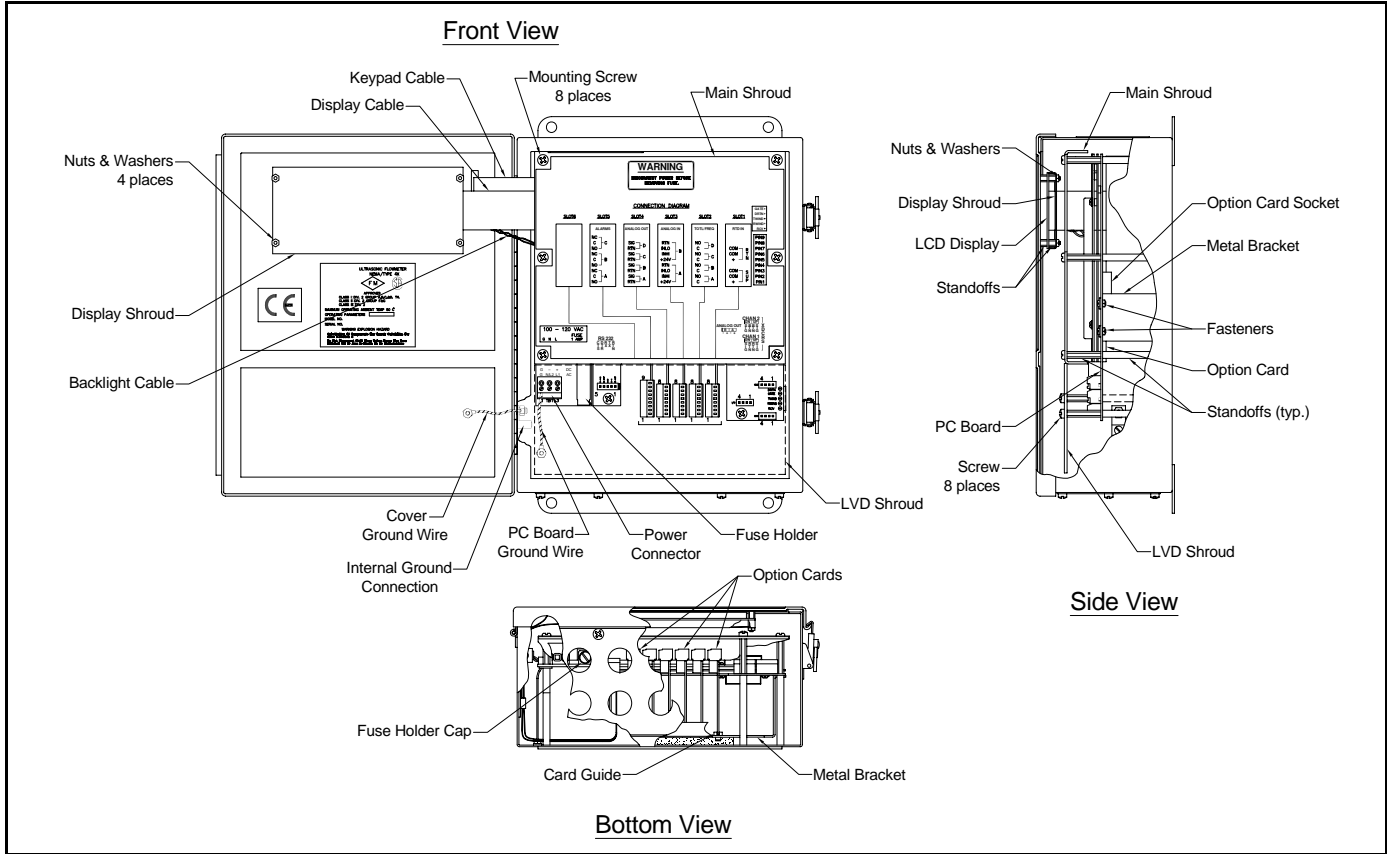
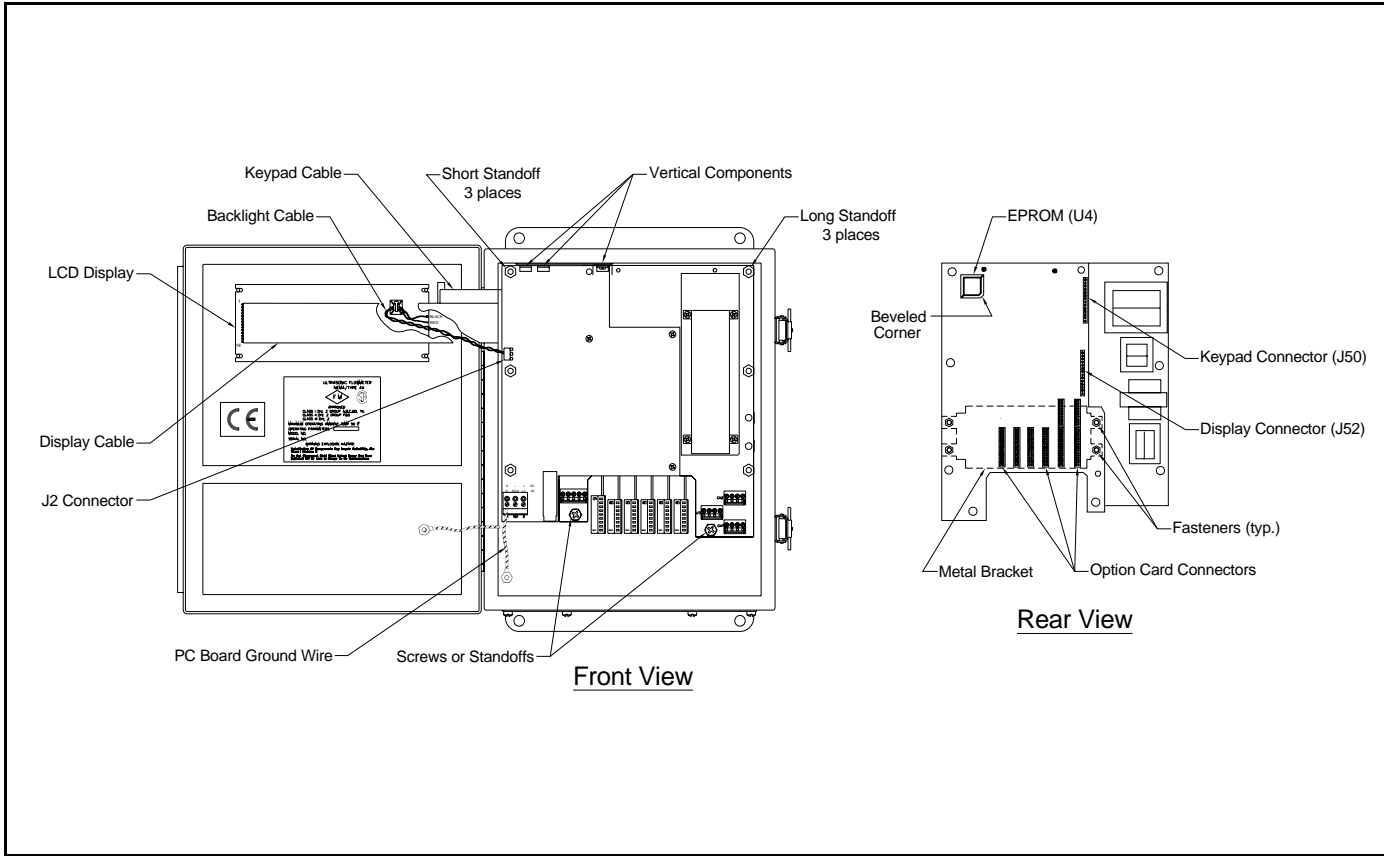

Figure 4-1: Standard Model G5868 - Electronics Console Assembly
Figure 4-2: Standard Model GS668 - Printed Circuit Board Assembly
All of the remaining procedures require removal of the printed circuit board. To accomplish this task, refer to Figure 4-1 on page 4-11 and Figure 4-2 on page 4-12 while completing the following steps:
Be very careful not to damage the vertical components along the top edge of the printed circuit board (see Figure 4-2 on page 4-12). Severe or repeated bending of these components will break their leads.
The Model GS868's *User Program* is stored on an erasable programmable read only memory (EPROM) chip. The EPROM, which is designated as component U4, is located in the top left corner of the rear of the printed circuit board. See Figure 4-2 on page 4-12 for a rear view of the printed circuit board.
To install an option card, refer to Figure 4-2 on page 4-12 and complete the following steps:
5. Place the metal bracket over the option cards, making sure that all option cards are aligned with the plastic card guides in the bracket. Secure the metal bracket to the printed circuit board with the plastic snap rivets provided. Refer to the installed assembly in Figure 4-1 on page 4-11.
The Model GS868's measurements are displayed on a two-pane LCD graphic display panel. The LCD display normally provides years of dependable service, but it is easily field-replaceable when necessary. To replace the LCD display, see Figure 4-1 on page 4-11 for the component locations, and complete the following steps:
4. Place the new LCD display assembly over the mounting studs on the console cover and fasten it in place with the four standoffs. Make sure that the LCD display assembly is oriented as shown in Figure 4-2 on page 4-12.
Whether the printed circuit board was removed for replacement or for one of the other procedures discussed in this chapter, reinstallation of the printed circuit board is the final step in the process. Refer to Figure 4-1 on page 4-11 and complete the following steps:
1. Position the printed circuit board within the electronics console with the top edge tilted forward. Insert the display ribbon cable and keypad ribbon cable connectors into their sockets on the rear of the printed circuit board. See Figure 4-1 on page 4-11 and Figure 4-2 on page 4-12 to identify the cables and sockets. Note that the keypad cable connects to the upper socket and the display cable connects to the lower socket.
During this procedure, be very careful not to damage the upright components along the top edge of the printed circuit board (see Figure 4-2 on page 4-12). Severe or repeated bending of these components will break their leads.